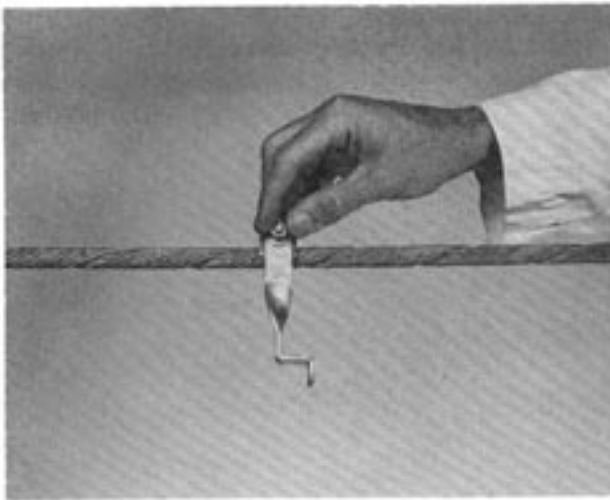

FIGURE 32 - ATTACHING HANGERS TO MESSENGER
11.01 Attach the hangers to the messenger wire using a lashing wire clamp (Figure 32). Do not tighten nuts at this time.